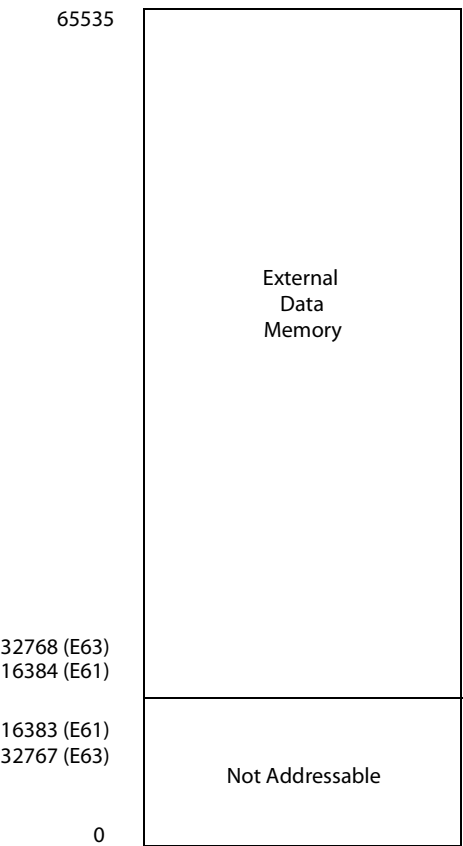

Figure 14. Data Memory Configuration
The EPROM version can address up to 48KB (Z86E61) or 32KB (Z86E63) of external data memory (DM) space beginning at location 16384 (Z86E61) or 32768 (Z86E63). The ROMless version can address up to 64KB of external data memory. External data memory may be included with, or separated from, the external program memory space. DM, an optional I/O function that can be programmed to appear on pin P34, is used to distinguish between data and program memory space; see Figure 14. The state of the DM signal is controlled by the type instruction being executed. An LDC opcode references PROGRAM (DM inactive) memory, and an LDE instruction references DATA (DM active Low) memory.